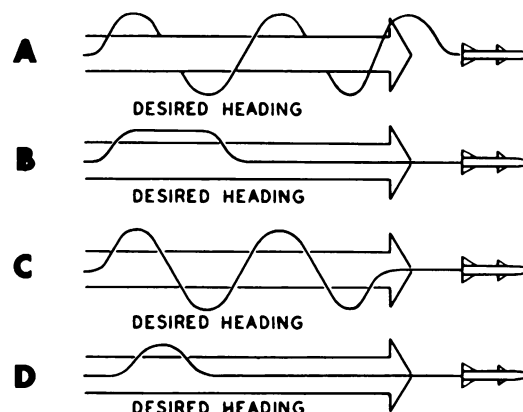

Figure 3E.
27. Assume that during the autopilot phase, a beam-rider missile is thrown off course by a sudden gust of wind. If the missile is provided with roll control, which of the diagrams in figure 3E best describes the missile's flight path as it corrects for the error?